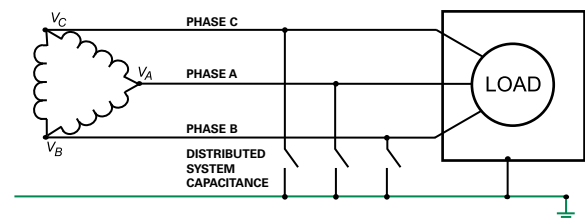

FIGURE 4
Ungrounded AC systems, as shown in Figure 4, were used where continuity of power was critical. For example, chemical plants or refineries involving processes that cannot be interrupted without extensive dollar or product loss may have an ungrounded system. However, experience has proven that these systems are problematic and are being replaced with resistance grounded systems. Two major problems with ungrounded systems are transient overvoltages and difficulty locating ground faults.
- An ungrounded system has no point in the system that is intentionally grounded (other than the normal bonding which is always present to connect the non-current-carrying metal parts to ground). Grounding occurs only through system capacitance to ground (as shown in Figure 4).